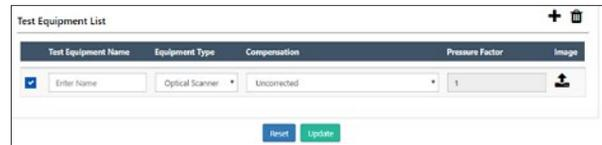

Figure 70: Define test equipment for instrument
- Enter the information for the test equipment (Figure 70).